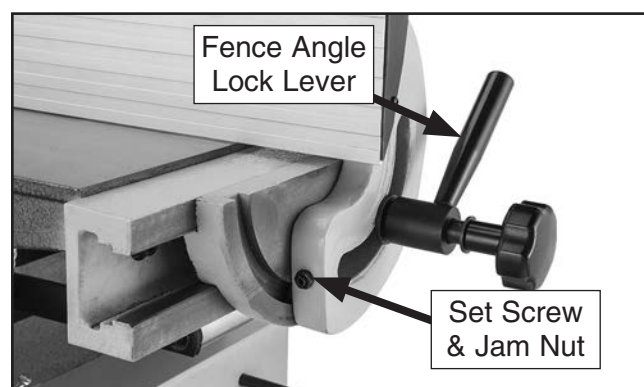

Figure 77. Location of 45° stop bolt and jam nut.
- If fence does not stop exactly at 45°, stop screw (see **Figure 77**) requires adjustment. Proceed to Step 3.
3. Adjust 45° stop screw and jam nut (see **Figure 77**) until fence face rests evenly on combination square.